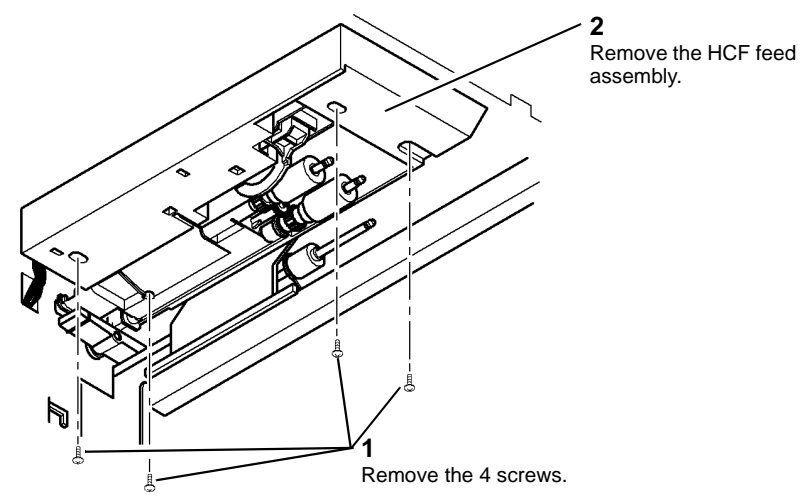

Figure 4 Remove the feed assembly
7. Remove the HCF feed assembly, Figure 4.